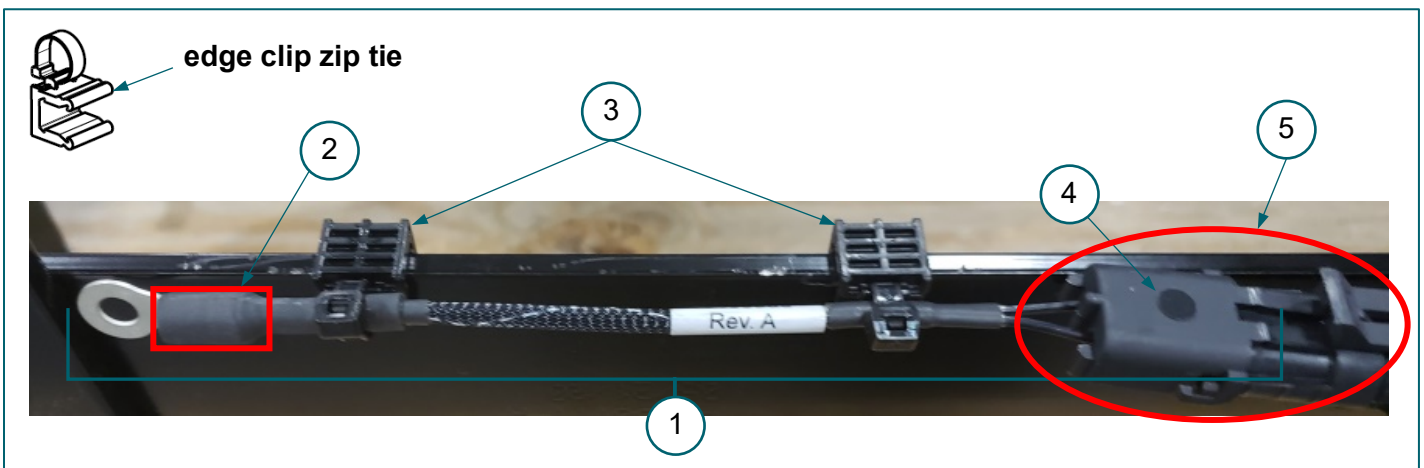

FIGURE 2–23. Thermistor mounting details, BTC. **NOTE:** Other non-SM systems similar.
3. Use (3) QTY: 2 edge clip zip tie, p/n 10712380, to mount each (1) thermistor assembly, placing one edge clip on each end of thermistor assembly. **FIGURE 2–23**